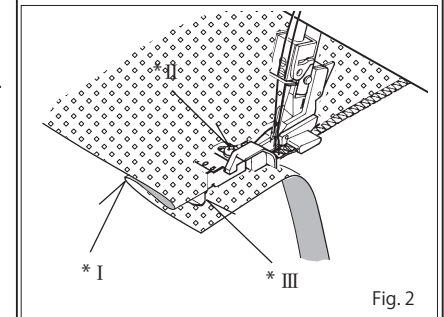
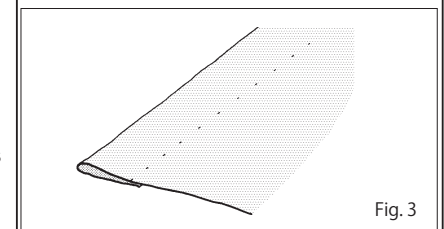

Fig. 2
Fig. 3
2. Place fabric under the presser foot with the 'wrong' side up. Feed the folded edge through the guide in the front of the foot and lower the presser foot lever. Try a stitch (or several stitches) on a spare piece of the actual fabric, and adjust the guide so that the needle just catches the fold. Adjust the guide by means of the small screw on the top of the foot - see Fig. 2.
3. When correctly set, sew the hem. The outside edge will be cut away by the machine - see also Fig. 2. After completion, open out and press again. The stitches should be almost invisible on the 'right' of the fabric - see Fig. 3.